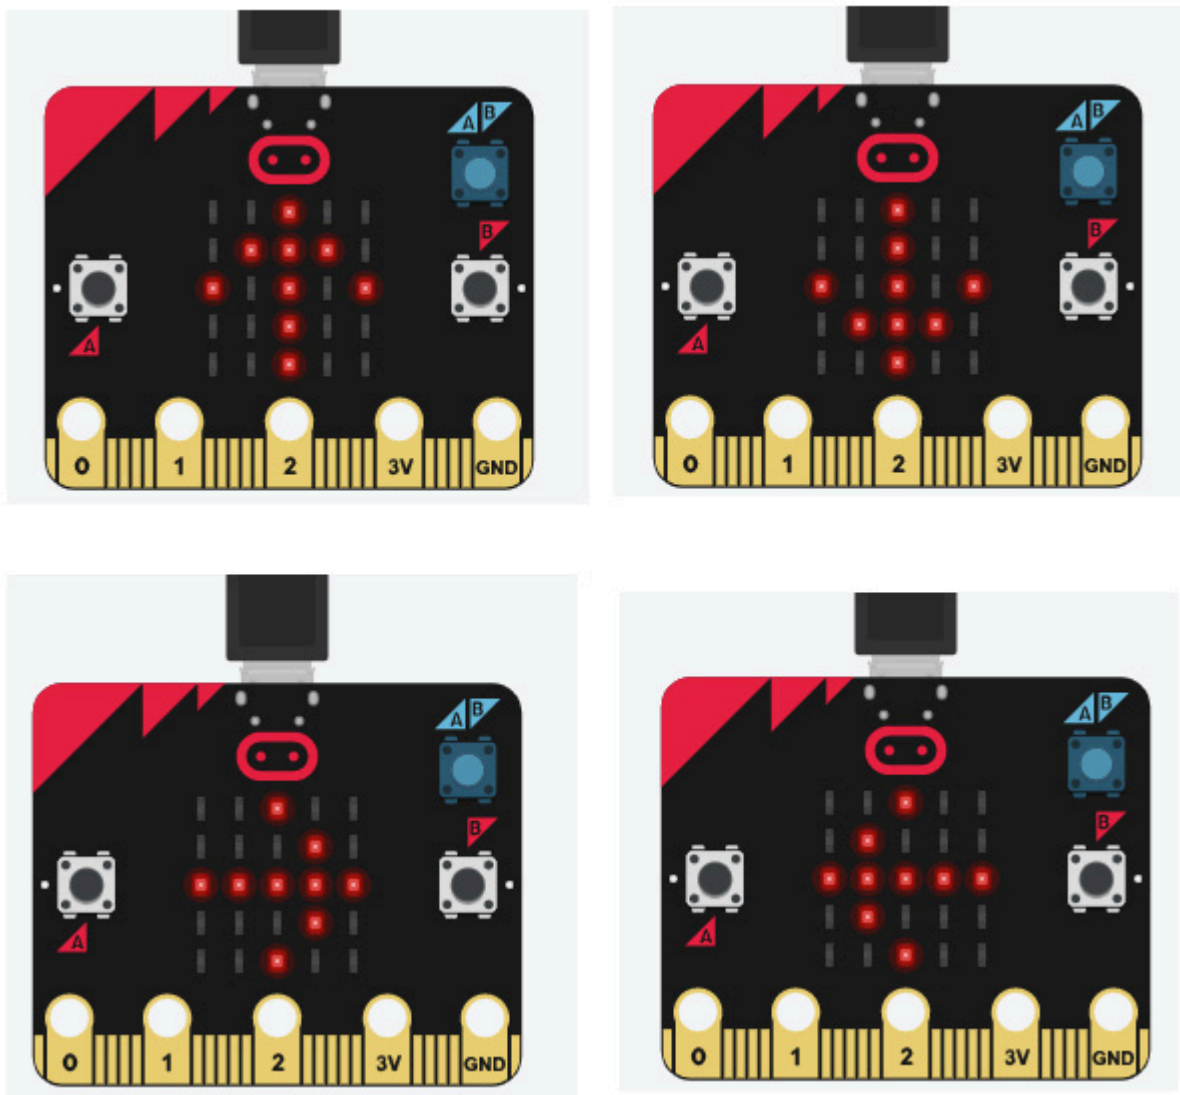

Figure 9.13 – Motions based on the joystick moments on the Micro:bit
*Figure 9.13* indicates the outcome of the operations performed using the joystick: